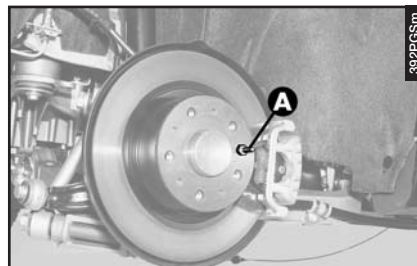
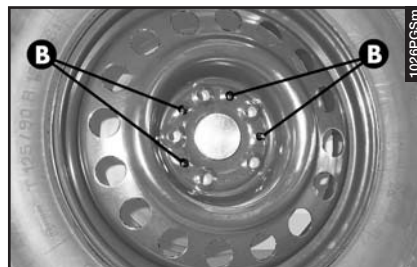

fig. 10
fig. 11
– Install the spare wheel making the hub pin (**A-fig. 10**) coincide with one of the holes (**B-fig. 11**) of the wheel.
- Install the wheel making the hub pin (**A-fig. 10**) coincide with one of the holes (**B-fig. 11**) of the wheel.